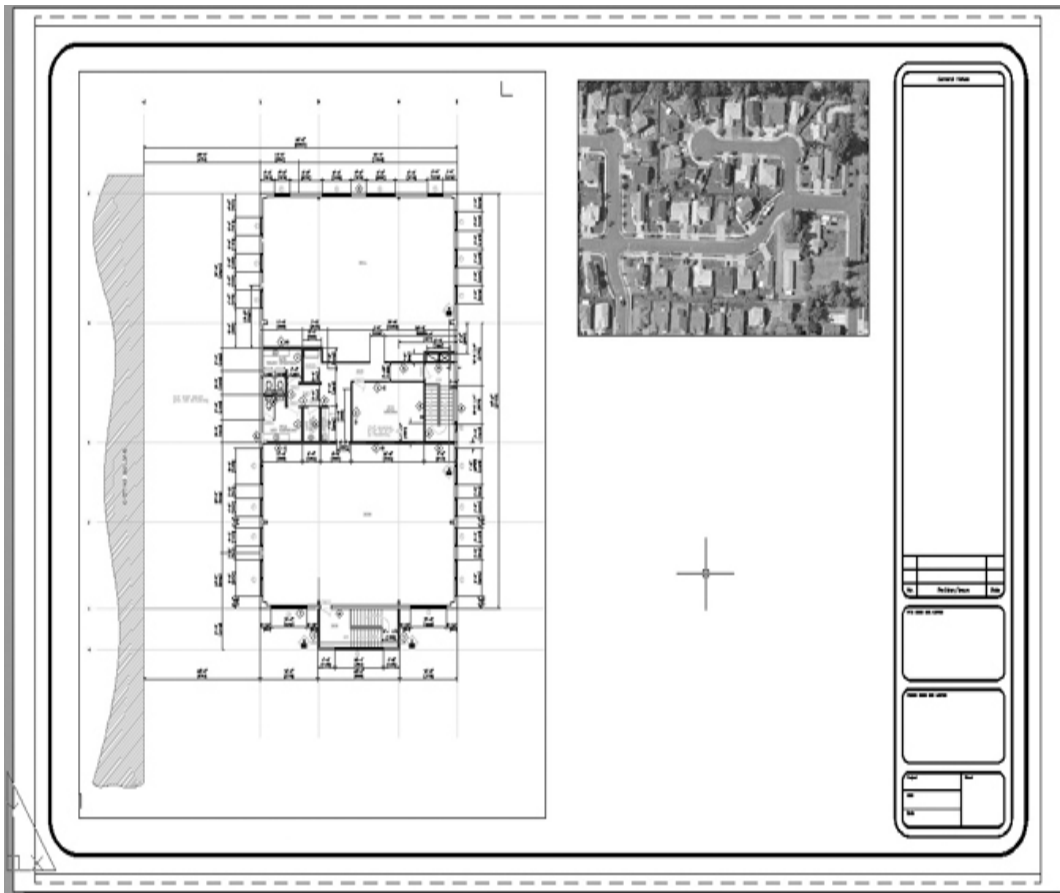

Figure 17-27
- 3 Select the **Create Clipping Boundary** tool on the **Clipping** panel. Select the **Rectangular** option, and clip the image as shown in Figure 17-27. Position the image as necessary to match Figure 17-27.